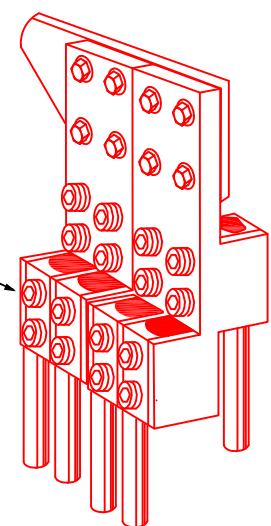

FIGURE 2
10. TIGHTEN SET SCREWS ON THE Z-BAR MULTITAP CONNECTOR (17) TO 30FT-LBS.
11. IF MORE THAN 4 SERVICES ARE REQUIRED, THEN AN ADDITIONAL "Z-BAR" MULTITAP CONNECTOR CAN BE ADDED AS SHOWN ON I-74.1.1 FIGURE 2.
12. INSTALL FPL "WARNING" & "DANGER" DECALS (12) PER STANDARD Z-35.0.0.
13. INSTALL PAD LOCK (10).